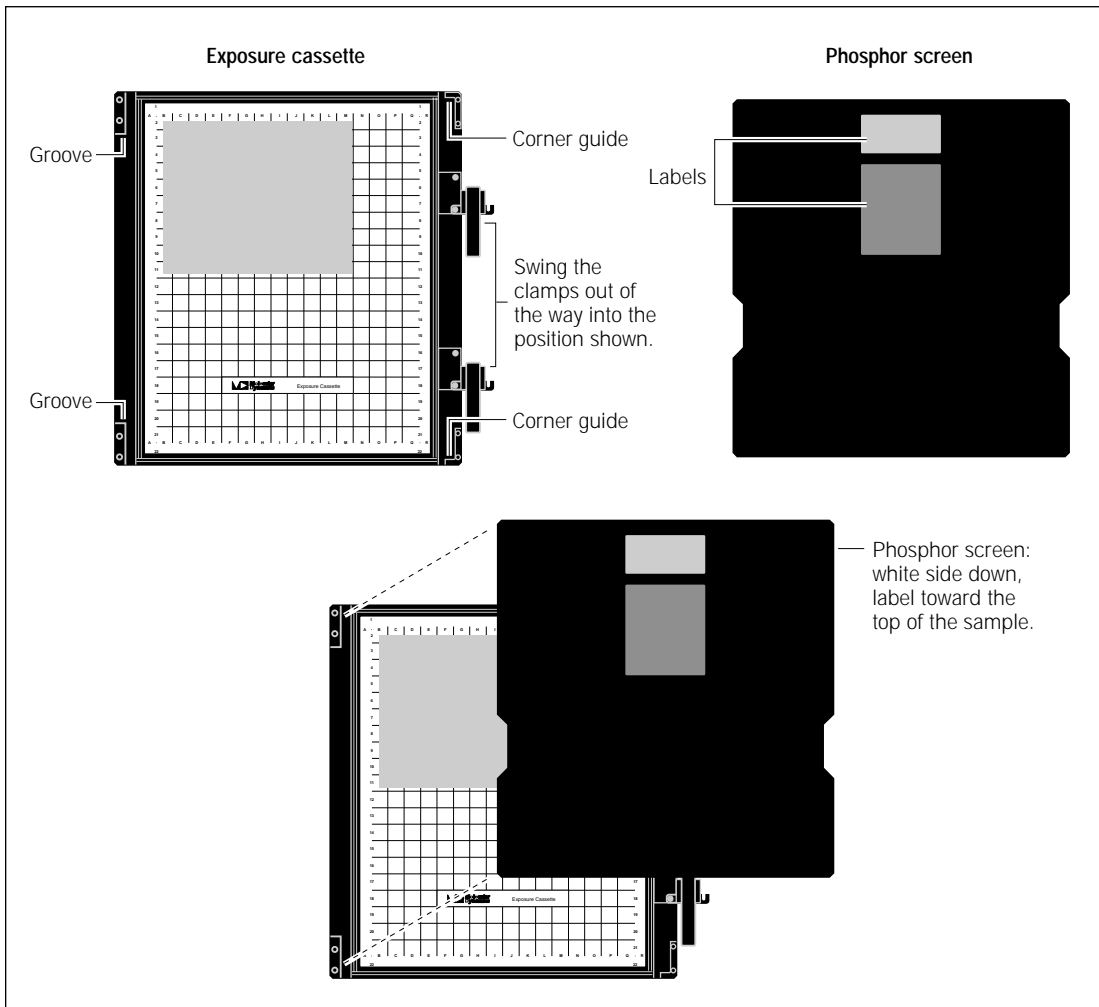

Figure 5-3. Loading the large-format mounted screen into the exposure cassette.
3. Note the groove along the side of the exposure cassette opposite the clamp or clamps. Place the edge of the screen into the groove. The white side of the screen should be face down, toward the sample. The top of the label on the screen should be toward the top of the cassette (figure 5-3).